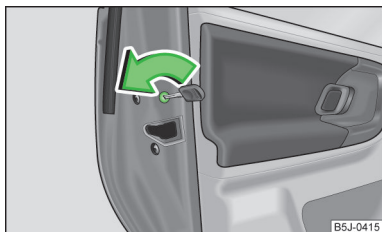

Fig. 28
- Turn the slot of the safety lock in the direction of the arrow » Fig. 28 (the other way around on the right-hand door).
- Turn the slot of the safety lock in the opposite direction to the arrow » Fig. 28 (the other way around on the right-hand door).